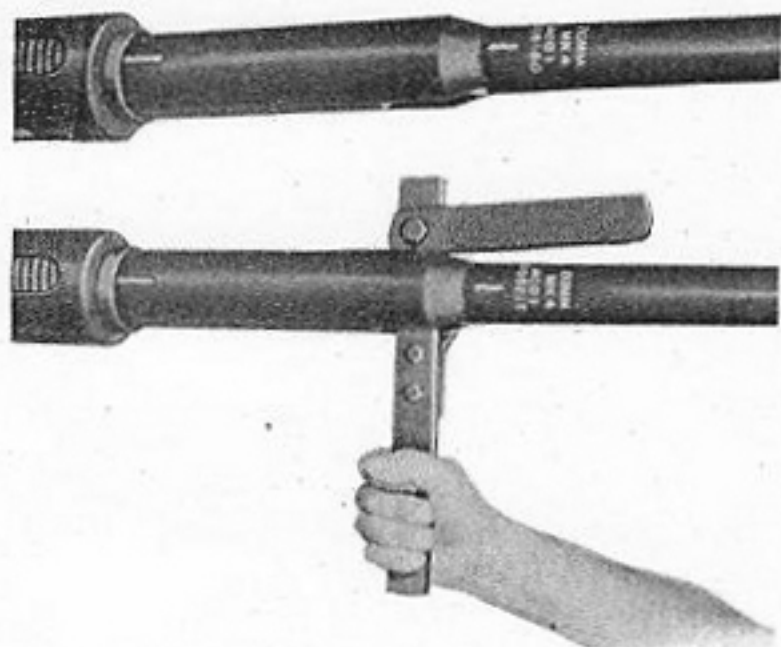

Figure 46. Rotating Right-Hand Barrel.
2. **Rotate Right-Hand Barrel.** Take the fixed handle of the barrel removing wrench (367720-1) in the right hand. Insert the inner end of the fixed handle in the outboard barrel slot as shown in Fig. 46, with the wrench center section under the barrel. Push downward on the fixed handle, rotating the barrel until it strikes its stop. Remove the wrench from the barrel. This